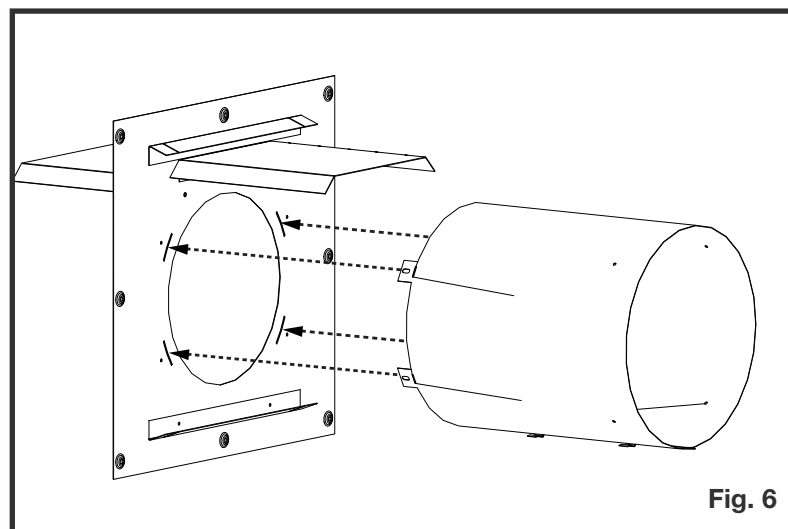

Fig. 6
6. Insert the vent sleeve tabs into the firestop spacer sockets, bend vent sleeve tabs, and secure to the firestop spacer with 4 supplied fasteners (Figure 6).
6. Secure the vent shield with two fasteners (supplied) to the front upper frame (Figure 6).